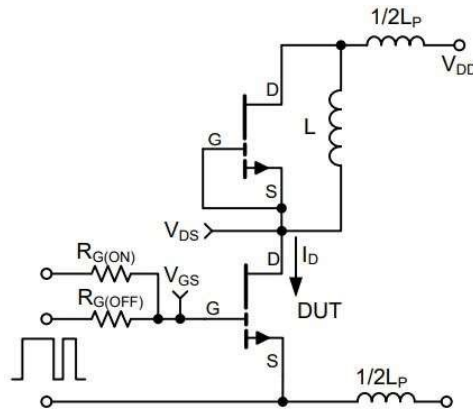

Figure 20: TDG100E90BSP Switching Loss Test Circuit
- (3) $C_{O(ER)}$ is the fixed capacitance that would give the same stored energy as C_{oss} while V_{DS} is rising from 0 V to the stated V_{DS}
- (4) $C_{O(TR)}$ is the fixed capacitance that would give the same charging time as C_{oss} while V_{DS} is rising from 0 V to the stated V_{DS} .
- (5) LP is the switching circuit parasitic inductance.
- (6) See Figure 20 for switching loss test circuit.